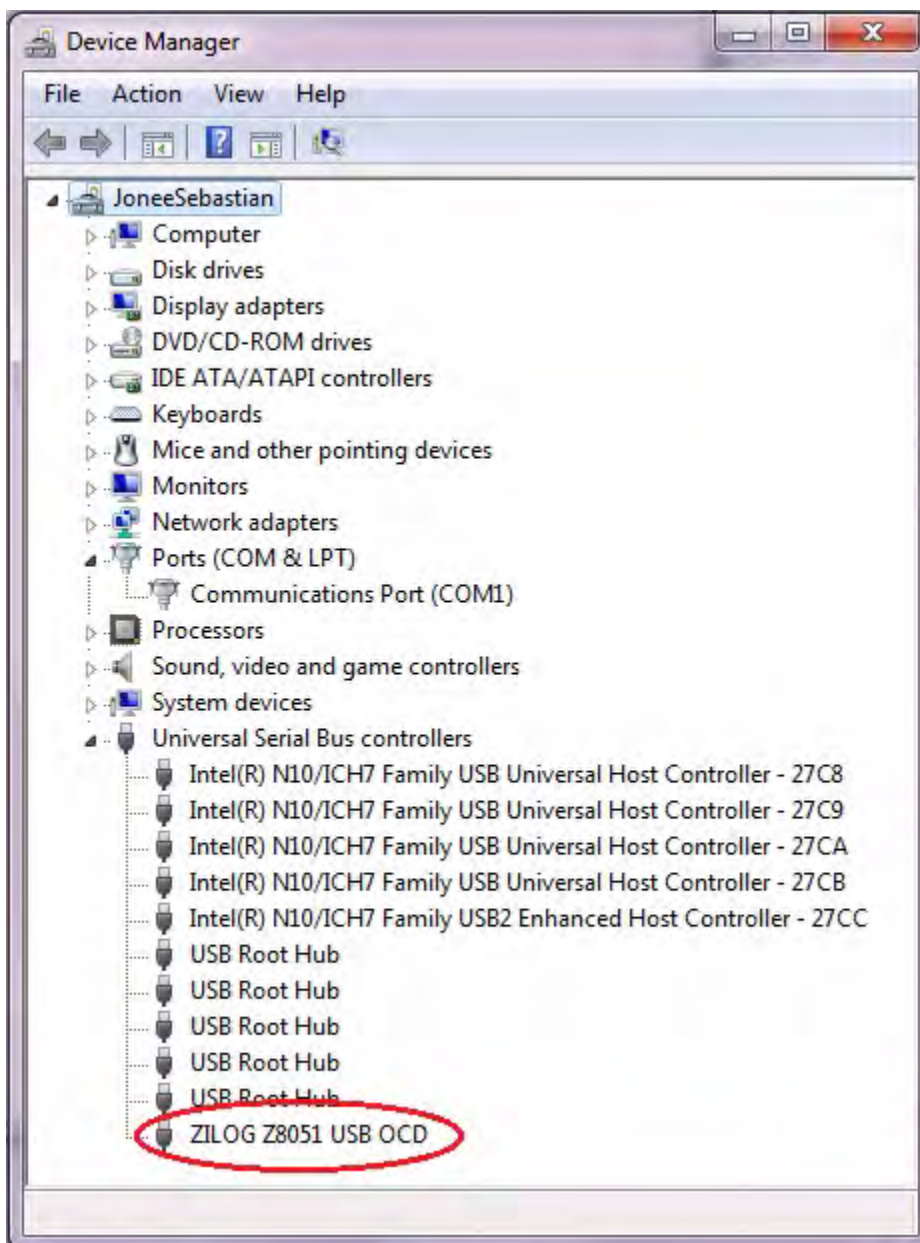

Figure 96. Device Manager Dialog, Windows 7
3. If *Zilog Z8051 USB OCD* appears in the Device Manager (as highlighted in Figure 96), the OCD driver software has been successfully installed.